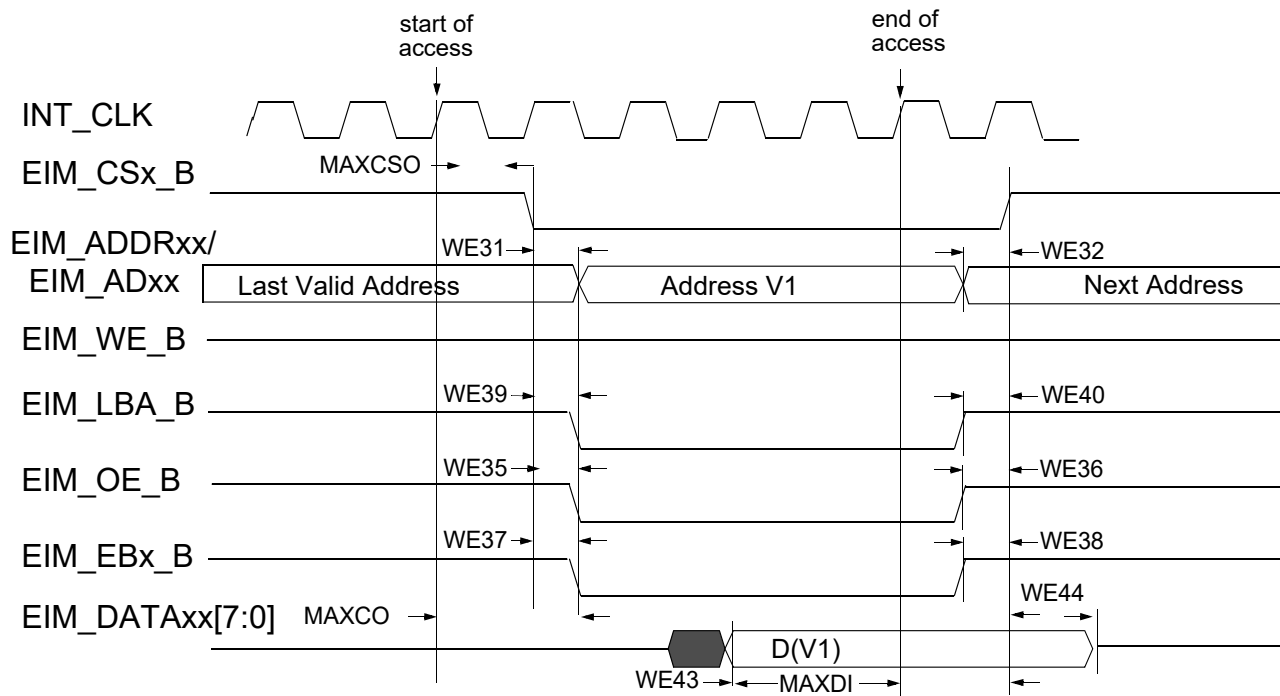
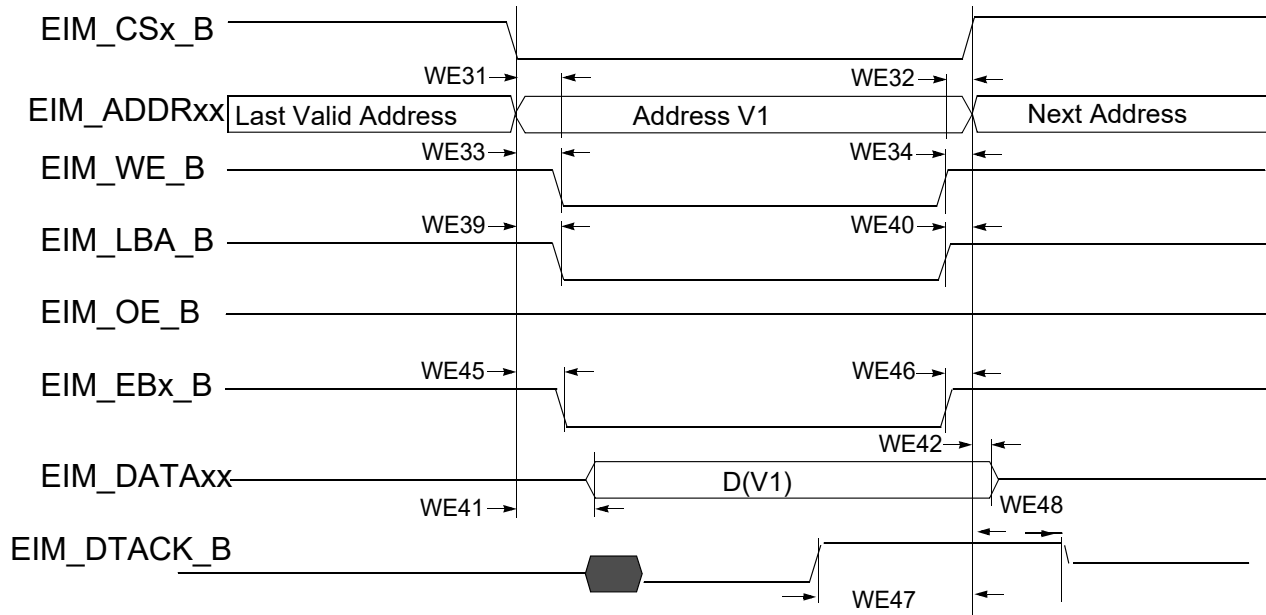

Figure 16. Asynchronous Memory Read Access (RWSC = 5)
Figure 21. DTACK Mode Write Access (DAP=0)
Figure 16 through Figure 21, and Table 44 help you determine timing parameters relative to the chip select (CS) state for asynchronous and DTACK EIM accesses with corresponding EIM bit fields and the timing parameters mentioned above.
Asynchronous read and write access length in cycles may vary from what is shown in Figure 16 through Figure 19 as RWSC, OEN and CSN is configured differently. See the *ii.MX 6SoloX Applications Processor Reference Manual (IMX6SXR)* for the EIM programming model.